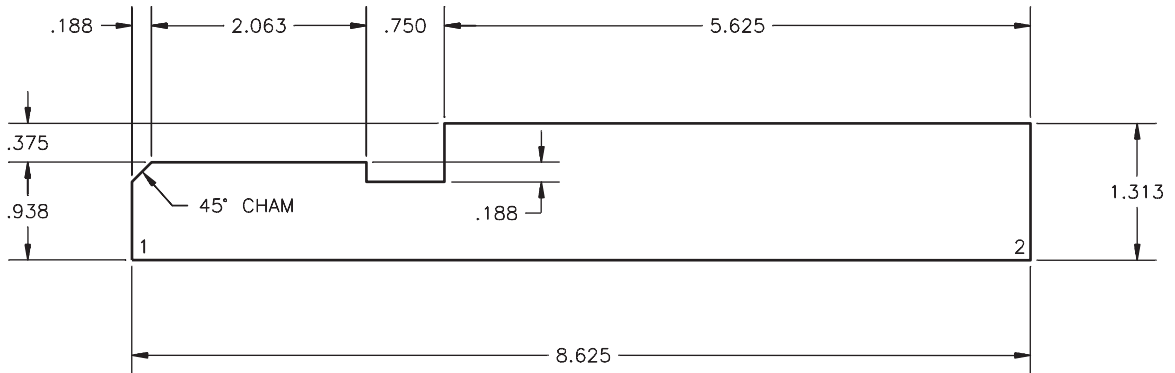

Fig. 43-3
2. Use a polyline to create the profile of the shaft, as shown in Fig. 43-3. Position point 1 on the ground plane at  $x = 1, y = 1$ . Make sure the polyline is closed. Omit the dimensions.